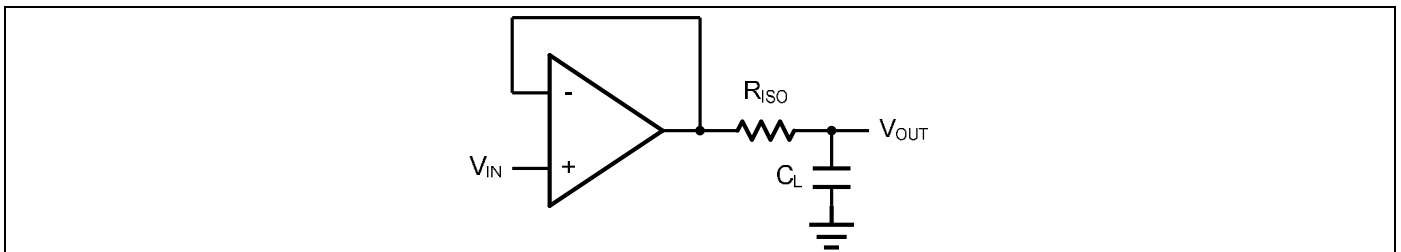
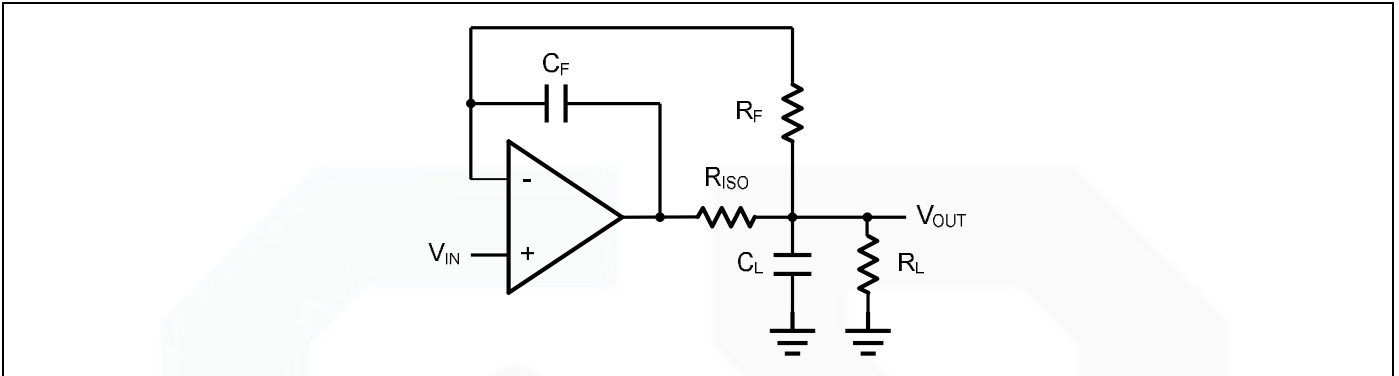

Figure 2. Indirectly Driving a Capacitive Load Using Isolation Resistor
Figure 3. Indirectly Driving a Capacitive Load with DC Accuracy
The GS8531/8532/8534 family is optimized for bandwidth and speed, not for driving capacitive loads. Output capacitance will create a pole in the amplifier's feedback path, leading to excessive peaking and potential oscillation. If dealing with load capacitance is a requirement of the application, the two strategies to consider are (1) using a small resistor in series with the amplifier's output and the load capacitance and (2) reducing the bandwidth of the amplifier's feedback loop by increasing the overall noise gain. Figure 2. shows a unity gain follower using the series resistor strategy. The resistor isolates the output from the capacitance and, more importantly, creates a zero in the feedback path that compensates for the pole created by the output capacitance.
The circuit in Figure 3 is an improvement to the one in Figure 2.  $R_F$  provides the DC accuracy by feed-forward the  $V_{IN}$  to  $R_L$ .  $C_F$  and  $R_{ISO}$  serve to counteract the loss of phase margin by feeding the high frequency component of the output signal back to the amplifier's inverting input, thereby preserving the phase margin in the overall feedback loop. Capacitive drive can be increased by increasing the value of  $C_F$ . This in turn will slow down the pulse response.